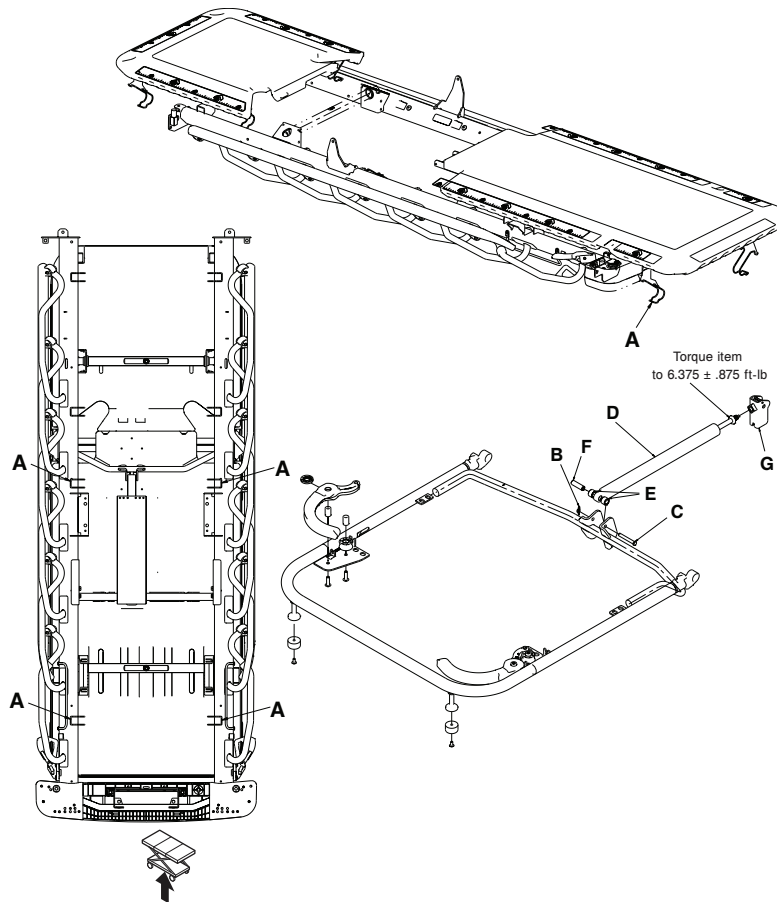

Figure 60 – Fowler gas cylinder replacement, Prime X option
6. Unclip the four spring clips (A) (below the litter frame) that secure the foot skin to the foot frame (Figure 60).